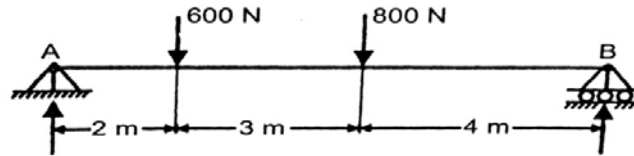

Fig. No.4
- c) Calculate graphically the reactions of a beam loaded as shown in Fig No.4